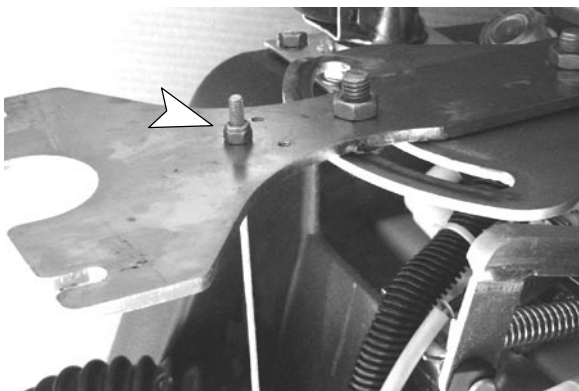

Fig. 9
5. Reconnect the squeegee lift cable to the new squeegee swivel bracket (Figure 9).